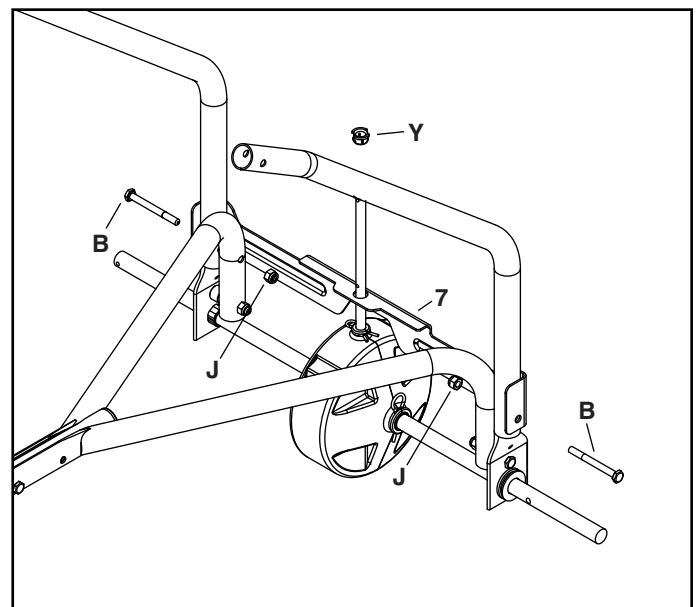

FIGURE 4
STEP 4: (SEE FIGURE 4)
- Insert the bushing (Y) into the cross brace (7).
- Attach the cross brace to the hopper support tubes using two 1/4" x 2-1/2" hex bolts (B) and 1/4" nylock nuts (J). **Do not tighten completely.**